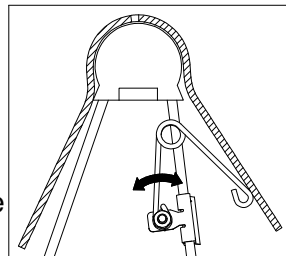

Figure F1: Cutaway view of driver side pivot arm and saddle.
2. **Set coupler angle.** Adjust the resting angle of your coupler plate by rotating the spring on the driver side pivot arm. Pulling the top of the spring away from the cab will increase the angle of the coupler plate. Set the angle of the coupler so that head will tilt away from the cab when coupling, see Figure F1. Tighten the 1/4" nut once the spring's orientation is set.